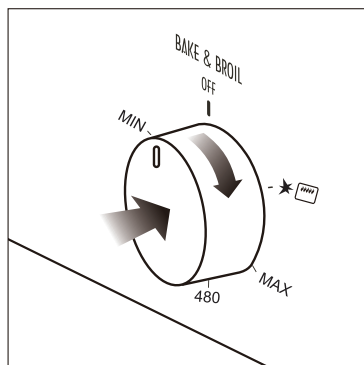

Fig. 3.3
2. Turn the knob to the position, Fig. 3.3. the oven automatically ignites, and it lights within 5.5 seconds; if it can't be lighted for the first time, it will ignite again after 12 seconds, and lights within 5.5 seconds; If it can't be lighted after repeating for 3 times, you need to reset the knob to OFF and then turn it on again.